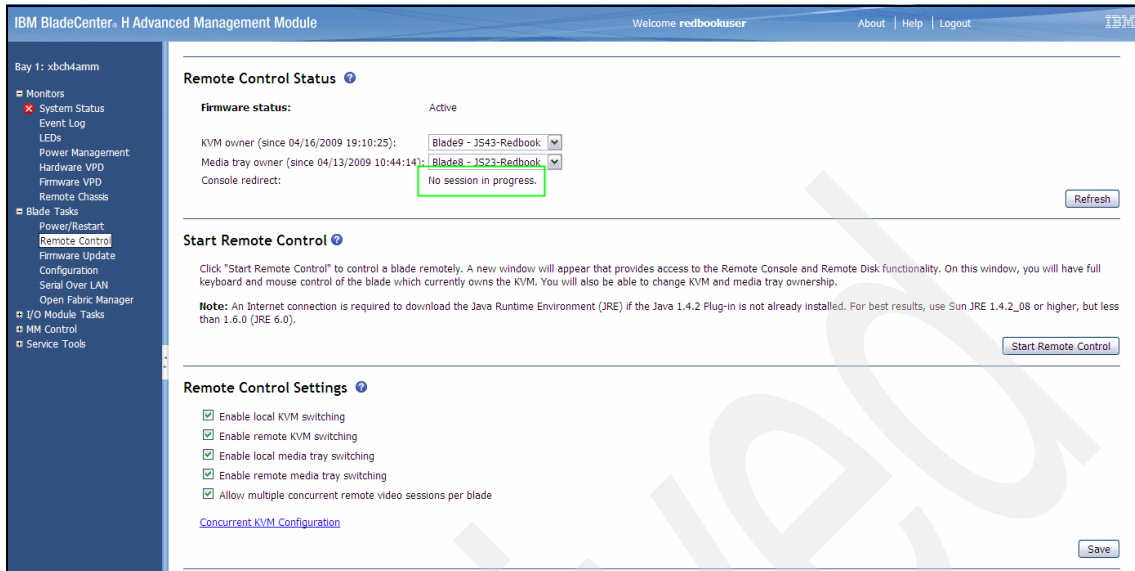

Figure A-4 Blade Remote Control options
3. After successful login, you see the status page of the AMM. This page gives a short overview of the health of the chassis and the blades. Click **Remote Control** in the menu under Blade Tasks, as shown in Figure A-4 on page 493. Verify that no remote control session is in progress by observing the remote control status. The Refresh button refreshes the status.